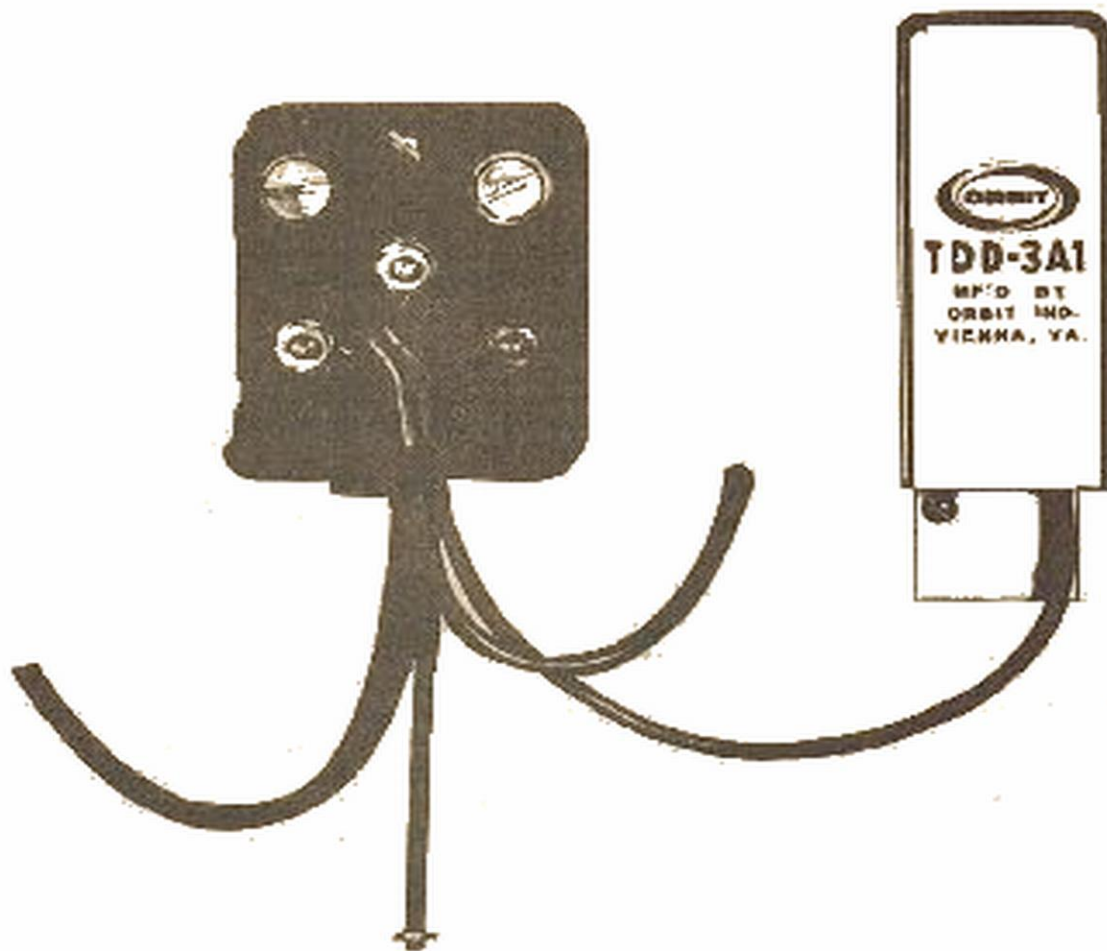

Figure 1. TDD-3A1 Ringer Isolation Relay, Installed and Connected to Protector.
2.01 The TDD-3A1 ringer isolation relay (see Figure 1) can be used to prevent noise introduced through divided (grounded) ringers by power induction. The device consists of a her-